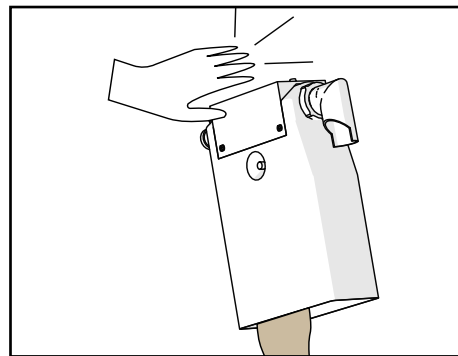

Figure 72.
1. Empty the canisters (see Figure 72).